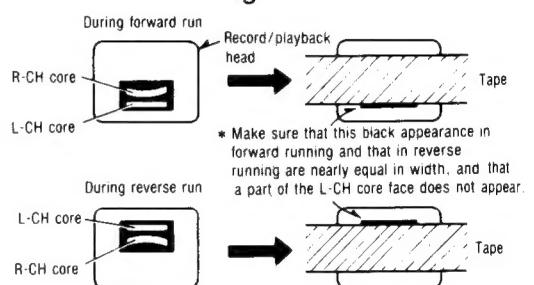

Fig. 4
4. Install a test tape (tape with mirror: QZZCRD) on the recorder; place the recorder in the FORWARD PLAY mode. Make fine adjustments of the tape guide height adjustment screws as necessary, to attain on the recording/reproducing head face the tape position shown in Fig. 4.
5. Run the tape in the forward play mode and check it for zigzag running. (Shown in Fig. 4). If zigzag tape running occurs, repeat step 4.
7. Repeat steps 5 and 6 two or three times and verify that the tape position shown in Fig. 4 is ensured.